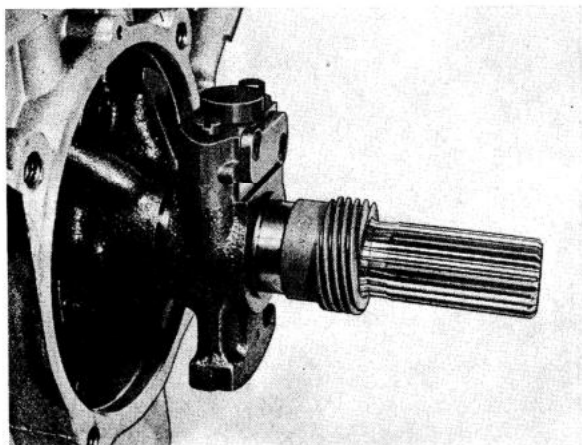

Fig. 4-115. Installing speedometer gear
22. Place the speedometer gear correctly on the driven shaft as shown in Fig. 4-115. Fit the extension hous-